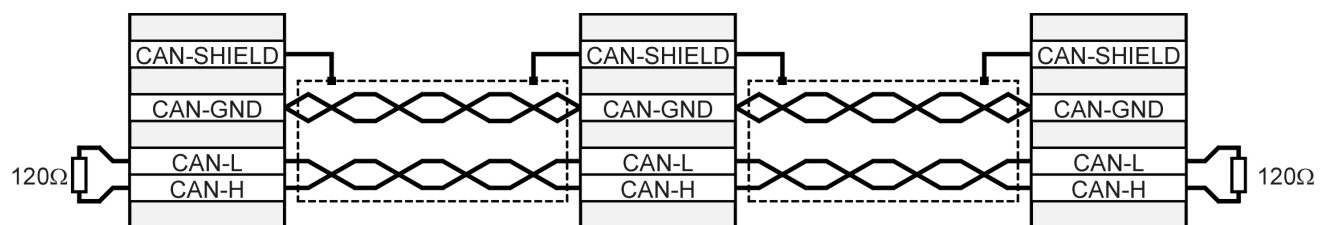

Figure 46: Cabling example CAN-Bus
- ❖ The used node Id's of your network are in basic in line connected, so the CAN cable runs from servo position controller to the other, see Figure 46.